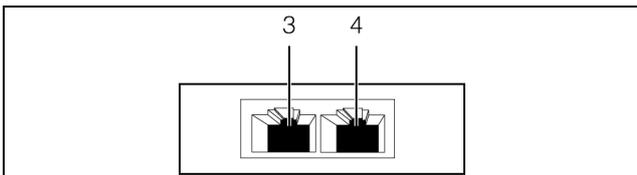

Fig. 10: Rear of the access sensor
- Use a CAN bus connection cable to connect the access sensor to a CAN bus interface on the CMC III Processing Unit or the neighbouring component on the CAN bus (fig. 10, item 3).
- If necessary, connect another component (e.g. another sensor type) to the second, free CAN bus interface of the access sensor (fig. 10, item 4).